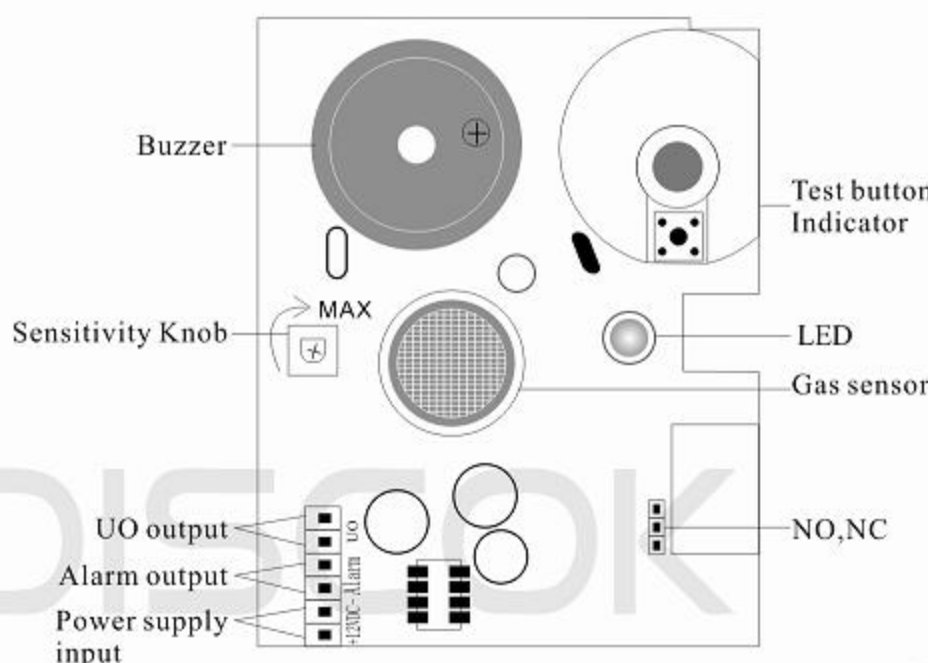
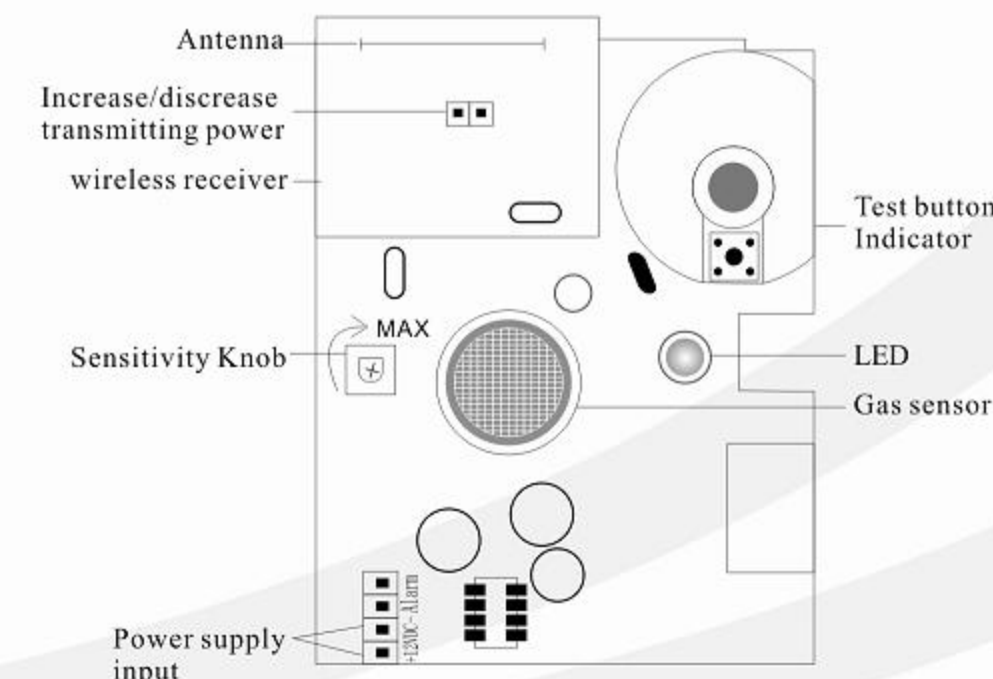

Fig1. iDo501CM Main board
Fig2. iDo501CMW Main board
- Adjust the sensitivity of iDo501CM and iDo501CMW through the sensitivity knob (Figure 1 and Figure 2). Gyrate anti-clockwise reduces the sensitivity, gyrate clockwise increases the sensitivity.
- Opens the detector's front cover, and finish the connection (Figure 1 and Figure 2);
- The inappropriate connection will possibly cause the detector not work well. The connection of iDo501CM as shown in Figure 2: